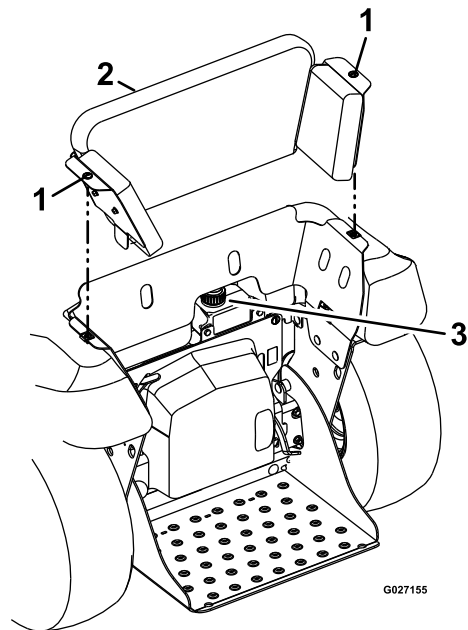

Figure 81
2. Rotate counterclockwise the 2 quarter-turn fasteners that secure the knee pad to the chassis of the machine (Figure 81).
3. Lift the knee pad up and rearward slightly and remove the pad from the machine (Figure 81).
4. Clean area around oil expansion tank and remove cap (Figure 81).
7. Install tank cap onto the expansion tank and tighten the cap until it is snug (Figure 81).